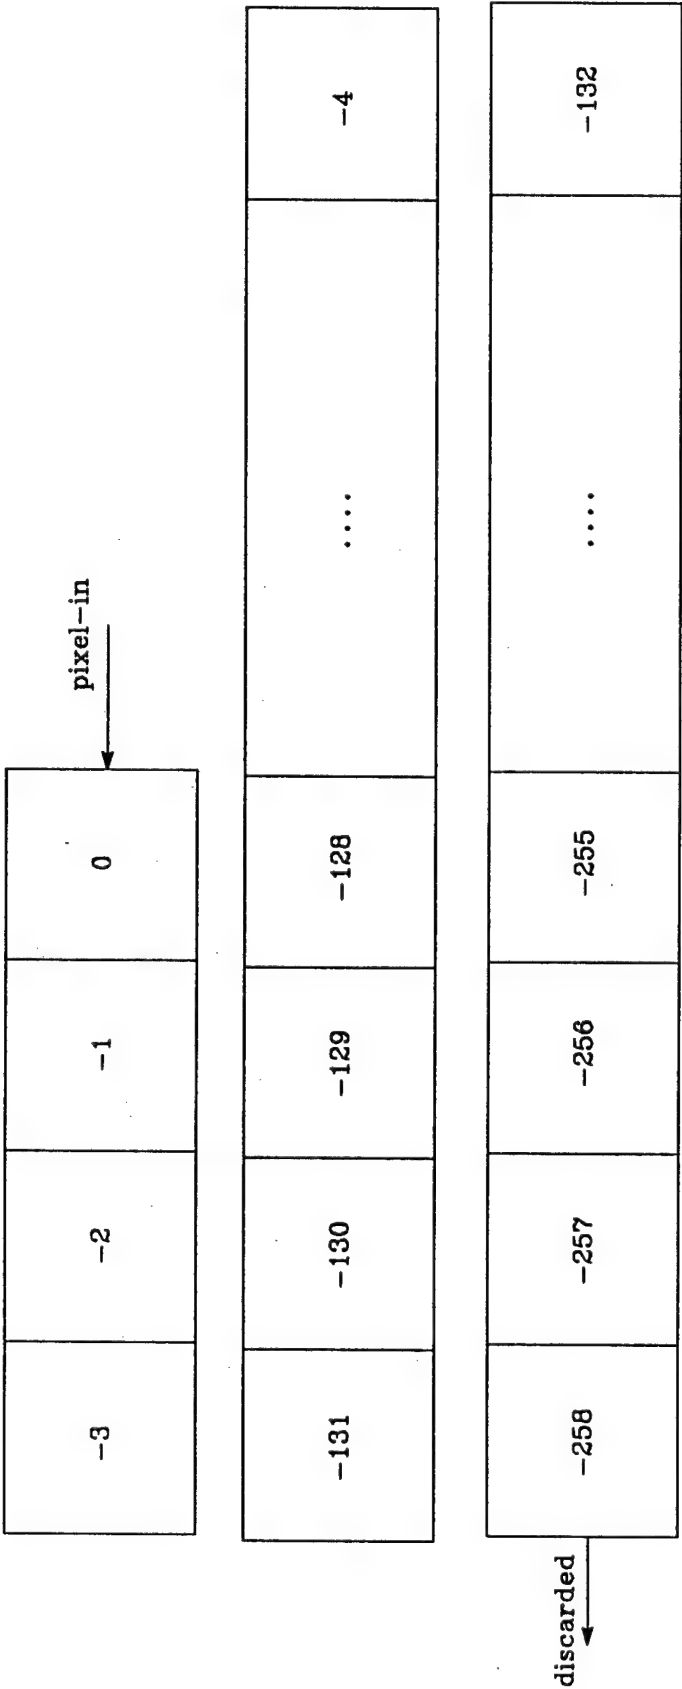

Figure 5. Pixel Stream Spatial Organization
Consider Figure 5, the pixels are designated by their arrival time (in clock cycles) relative to the present. At $t = 0$, the pixel $XZ^0 = X$ is being received and all the information required to compute the threshold for XZ^{-130} is available. The pixel_set of equation (1) consists of: